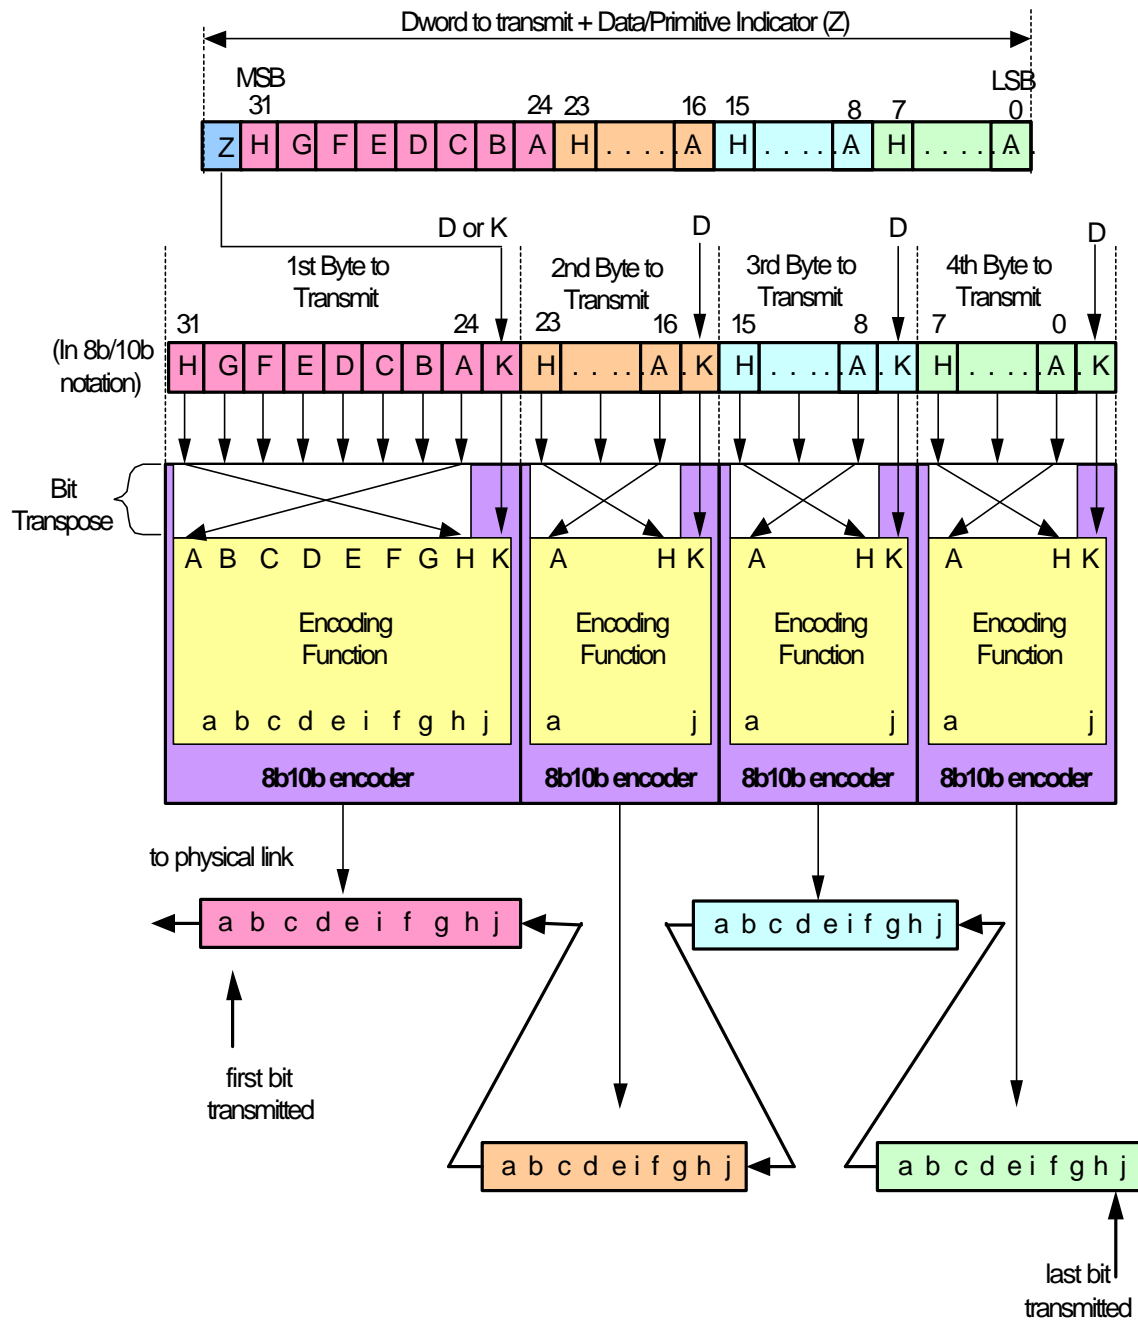

Figure 35 – SAS bit transmission logic
Figures 35 and 36 in sas-r02a show bit transposition logic required *prior* to 8b/10b encoding and *after* 10b/8b decoding. While bit transposition within a byte is actually required for 8b/10b encoding and decoding as defined by the original 8b/10b encoding patent, the bit transposition is done *inside of* the 8b/10b encoder and 10b/8b decoder, *not outside of* the them, as depicted in the current figures. This document proposes a modification to Figures 35 and 36 in order to better correlate them to Tables 22 and 24, as well as to show that one does not have to perform a bit transposition on an 8-bit value prior to looking up the associated 10b encoding in Table 24.
1) Figures 35 and 36 show bit transposition being done within each byte of a dword outside of the 8b/10 encoding/decoding logic. Propose that these diagrams get replaced with the following diagrams: